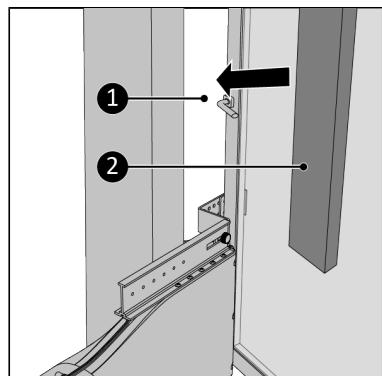

Figure 93.
17. Fill up the open spaces (Figure 93, pos. 1) with the delivered isolation foam (Figure 93, pos. 2), cut the foam if necessary*.